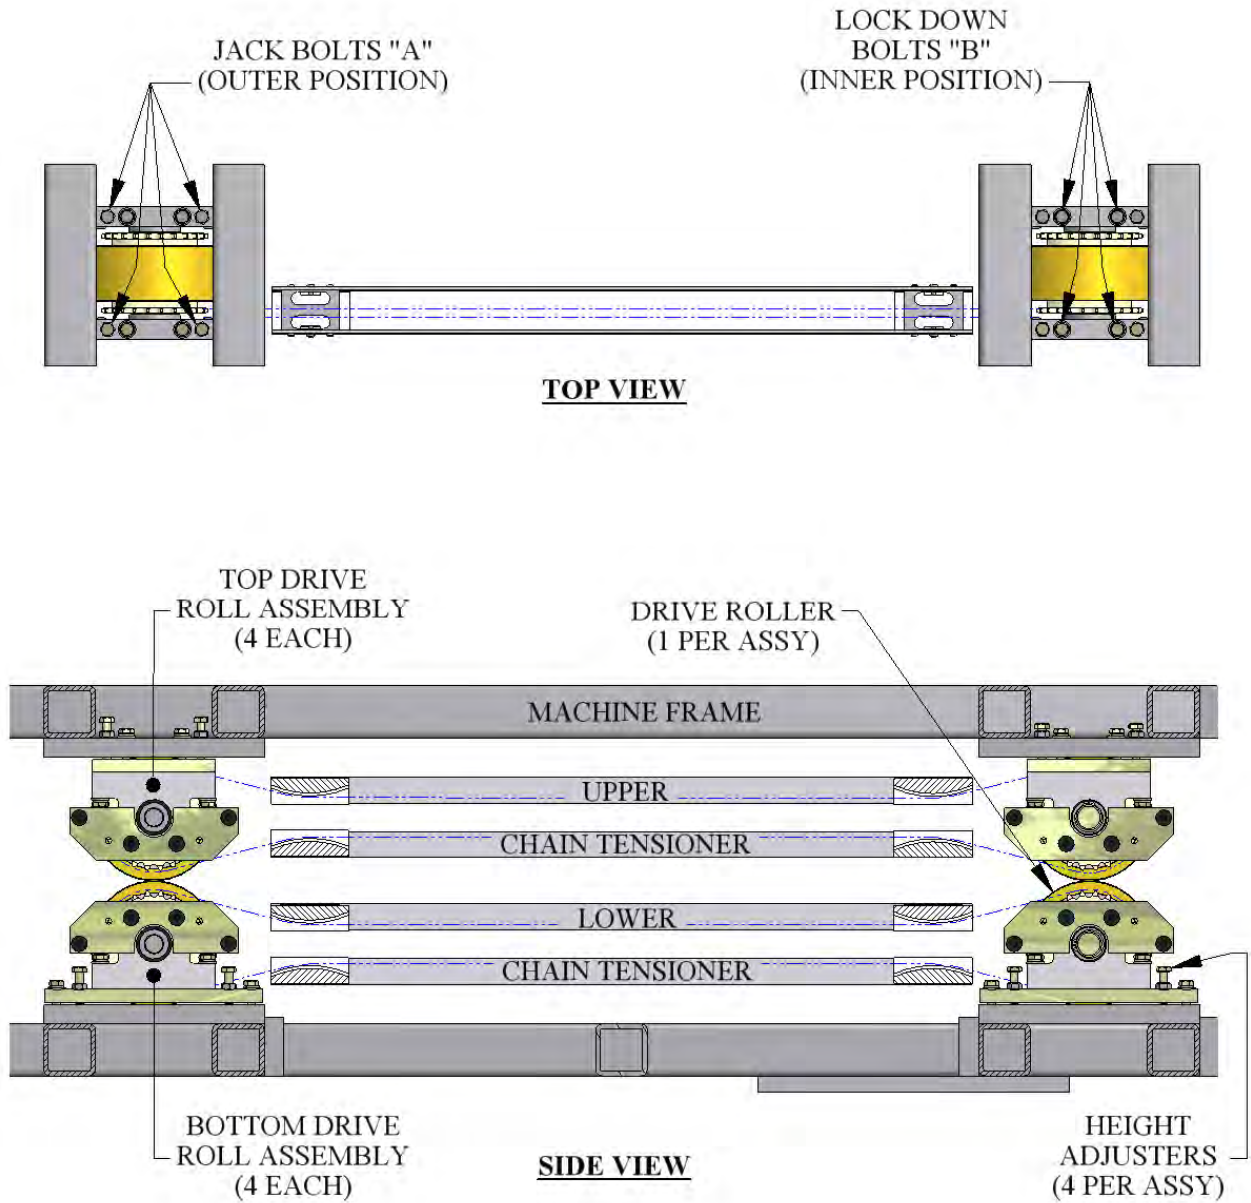
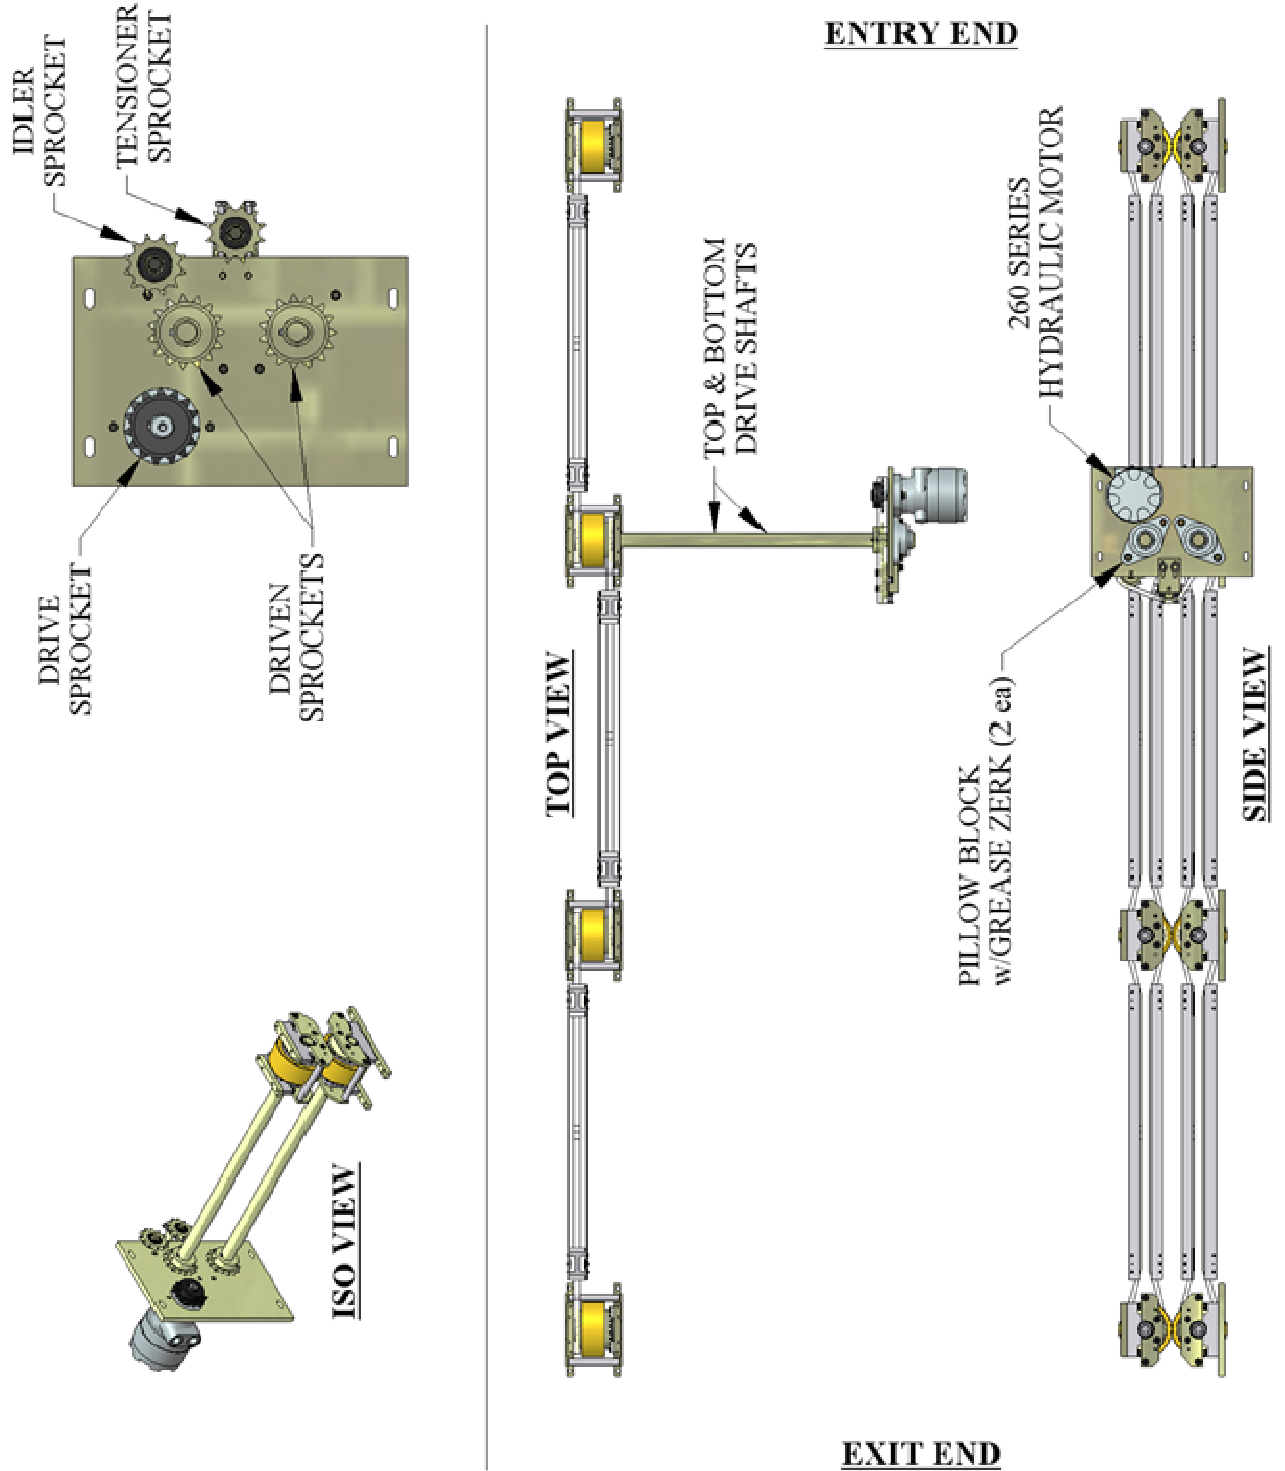
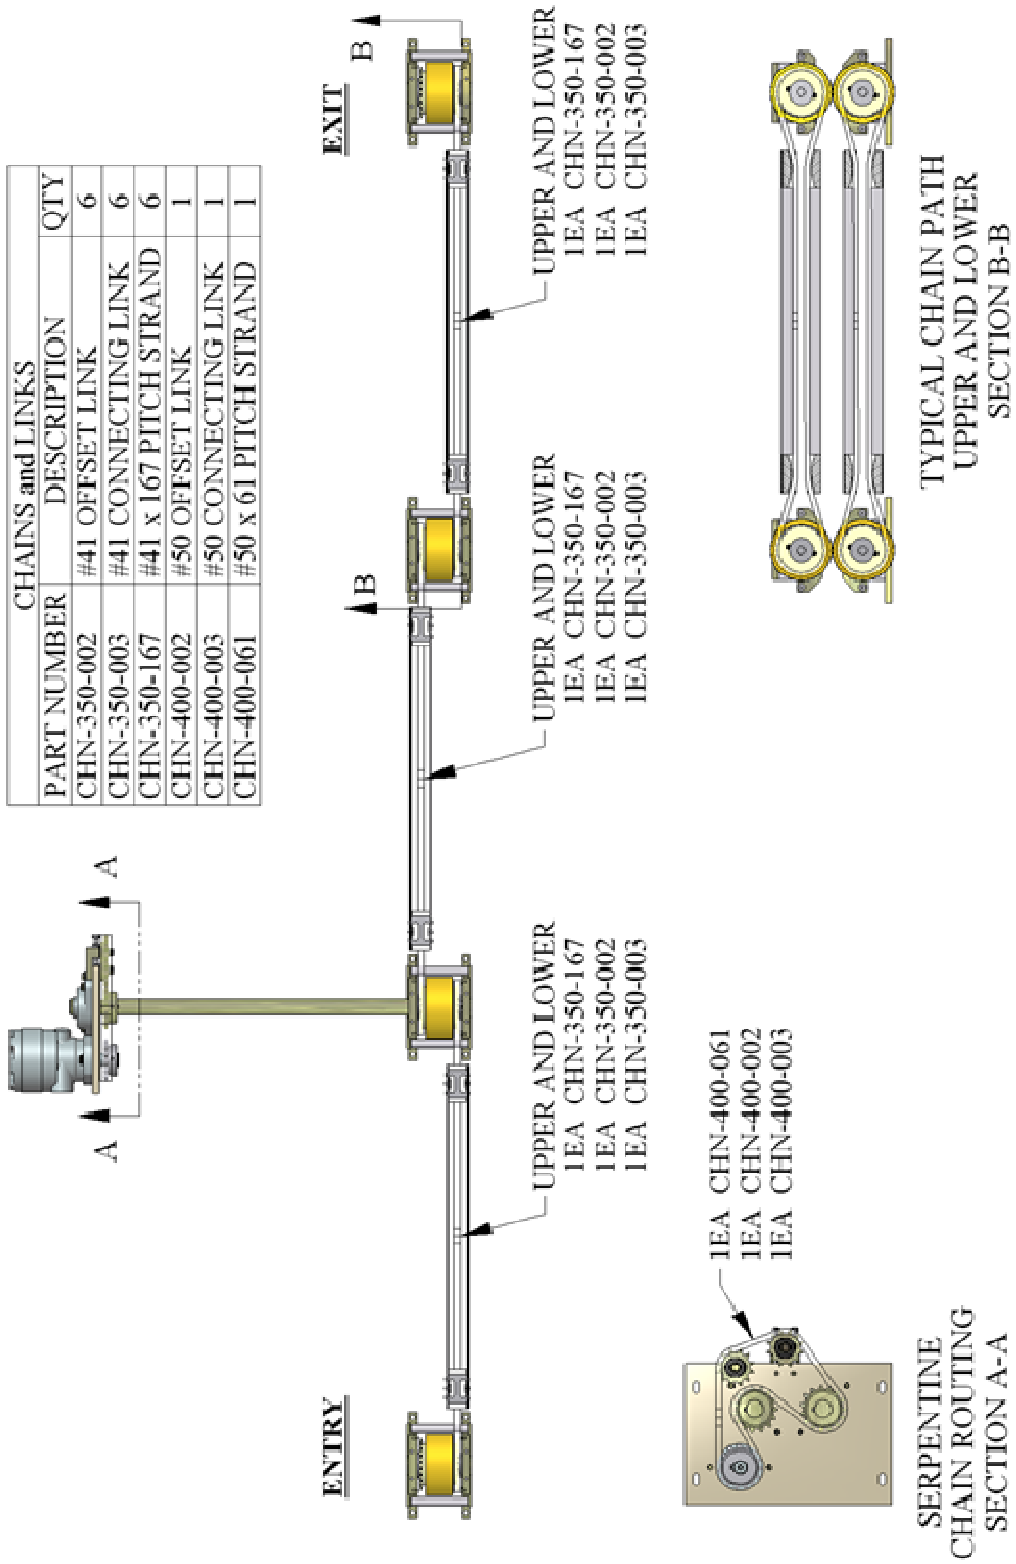

Figure 16: Drive Roll Assembly View
Figure 17: Gears and Shafts
Figure 18: Chains Upper and Lower
(Figure 16, Figure 17 & Figure 18)
3. The chains used in this system are #50 Roller Chain at the drive sprocket and #41 Roller Chain between drive rolls. See Figure 18 for chain locations and lengths if chain replacement is necessary.